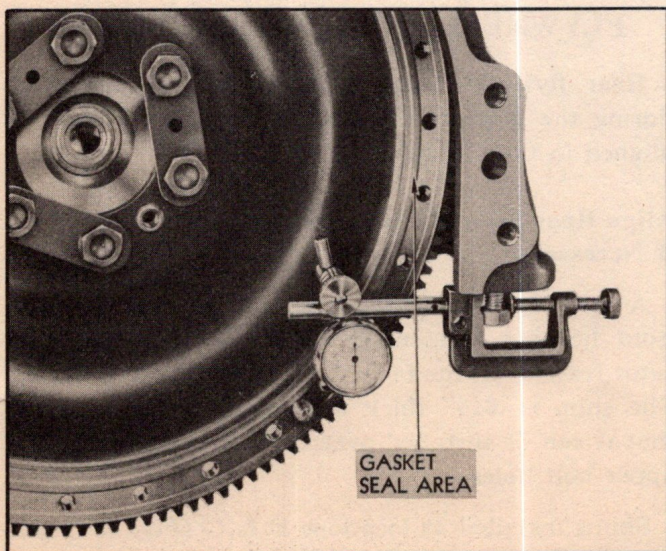

Fig. 228—Checking Flywheel Runout
7. Mount indicator so stem or button rests on torus cover gasket seal area and check flywheel runout. Runout should not exceed .005" total indicator reading (Fig. 228).